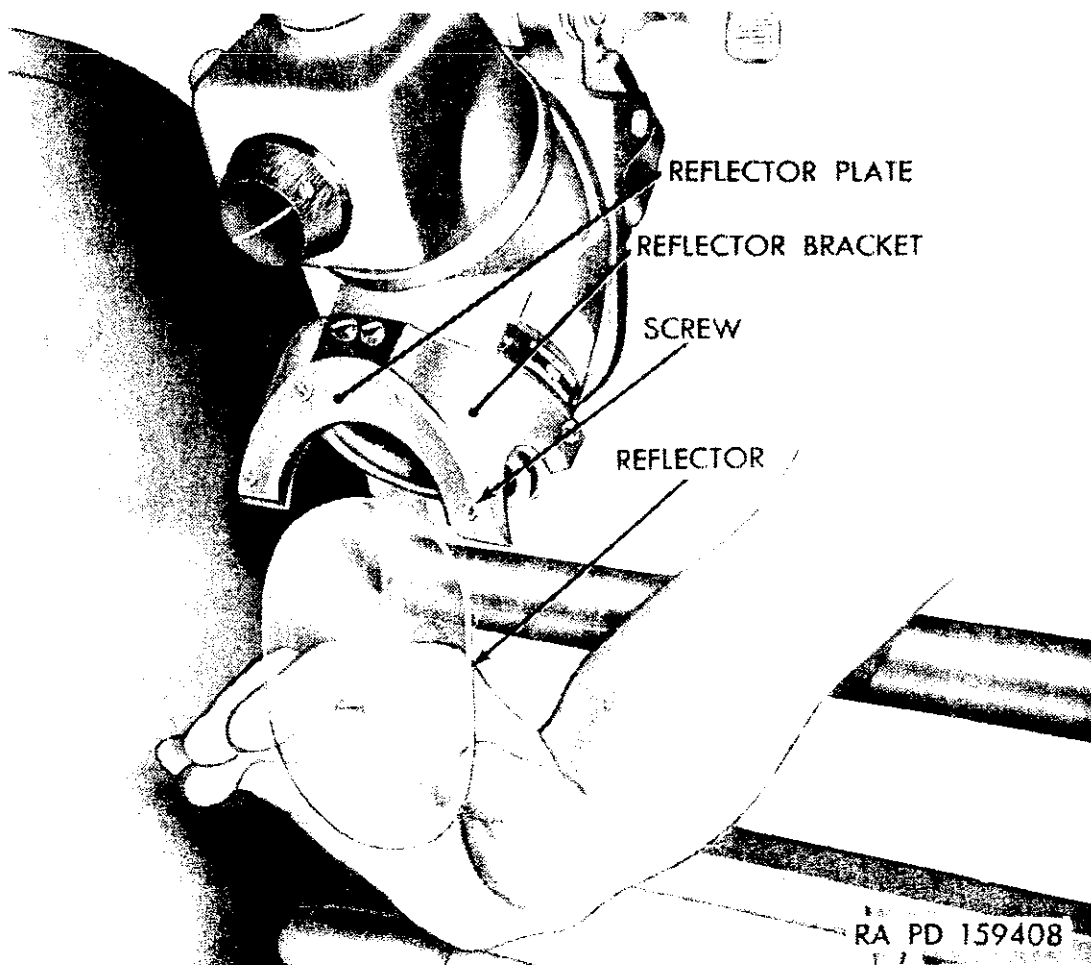

Figure 97 Removing reflector from between reflector plate and reflector bracket
- (a) Loosen the four screws that secure the reflector plate (fig. 97) to the reflector bracket.